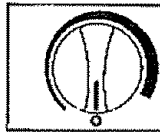

Fig. 14
- To turn off the wine cooler, (no cooling) rotate the control knob to the "0" (off) position. See fig.14